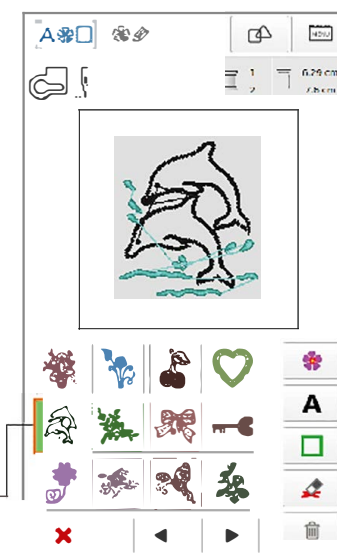

Figure 2
2. Click the built-in embroidery pattern button to enter the pattern selection interface in Figure 2